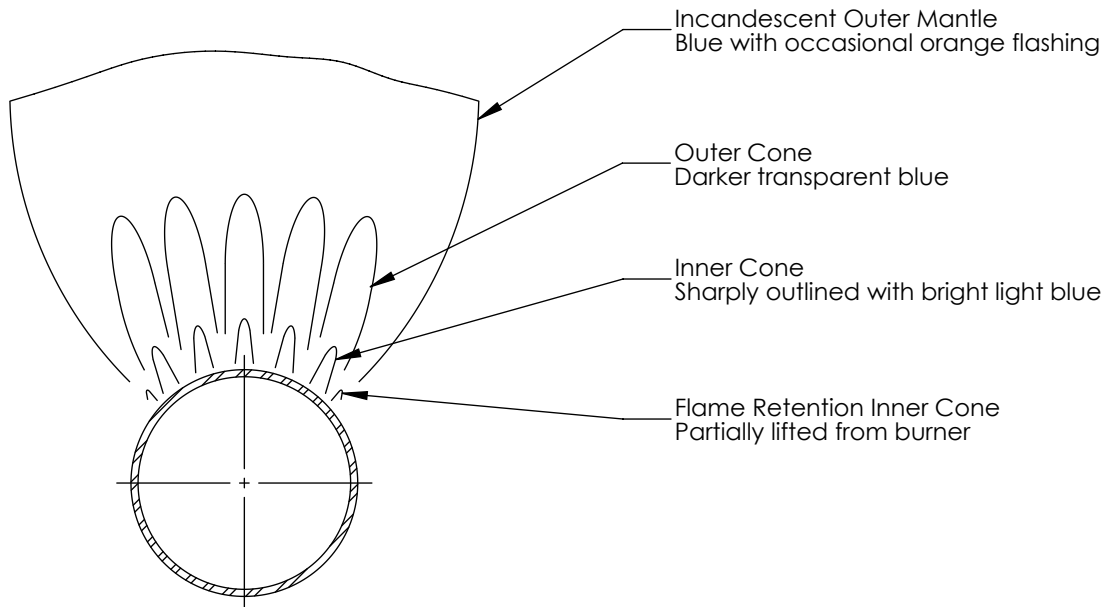

Figure 10-5: Main Burner Flame
13. Observe main burner flames visible through the observation port. Flames should be stable and mostly blue. See Figure 10-5. No yellow tipping should be present; however, intermittent flecks of yellow and orange in the flame are normal.